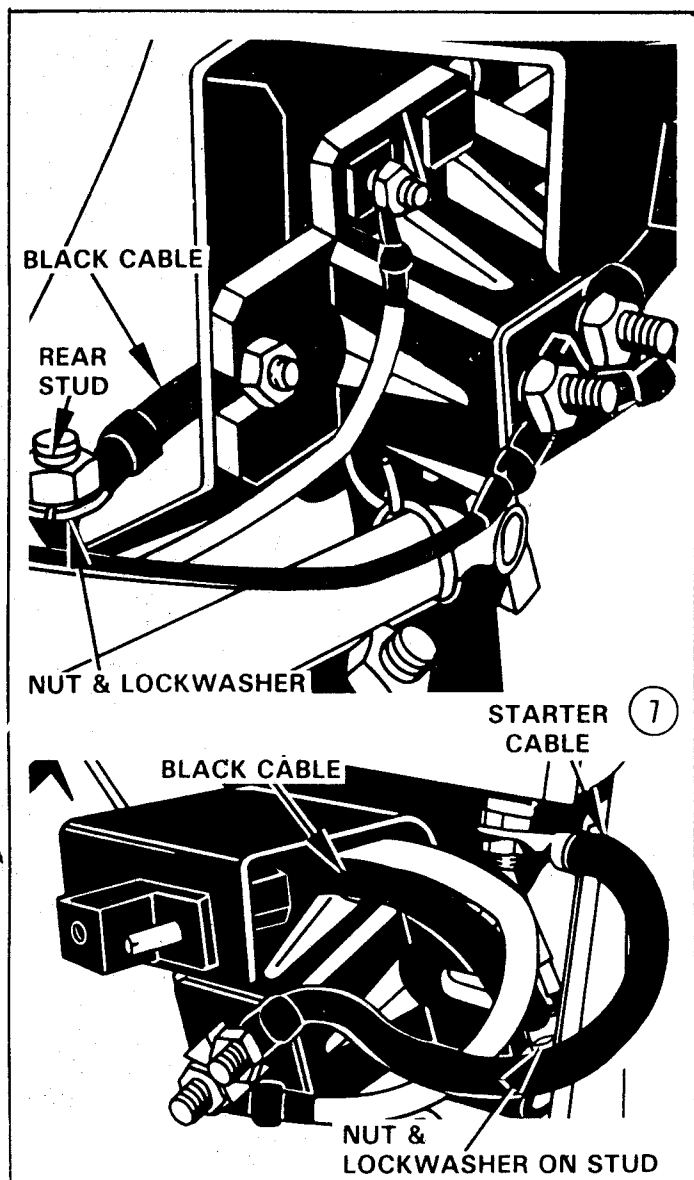

FIGURE 58
5. Place black cable from Adapter Lead (9) of Bracket-Solenoid Assembly onto the rear stud on the engine base. Reinstall the original two nuts and lockwashers. See Figure 58.
6. Attach Starter Cable (7) to the terminal on the lower right of the Starter Motor (5). Secure cable terminal with washer and nut provided on the Starter Motor. See Figure 58.